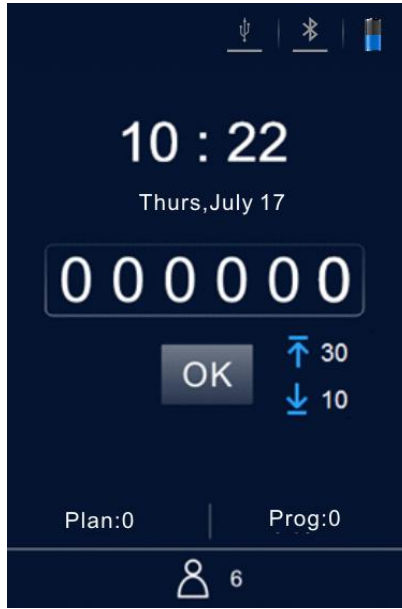

Fig 4.2 Test Interface
2. Keep the Biolum detector upright and ensure its incline angle is less than 30 ° during the test. The Biolum detector will display the test interface, as shown in figure4.2.